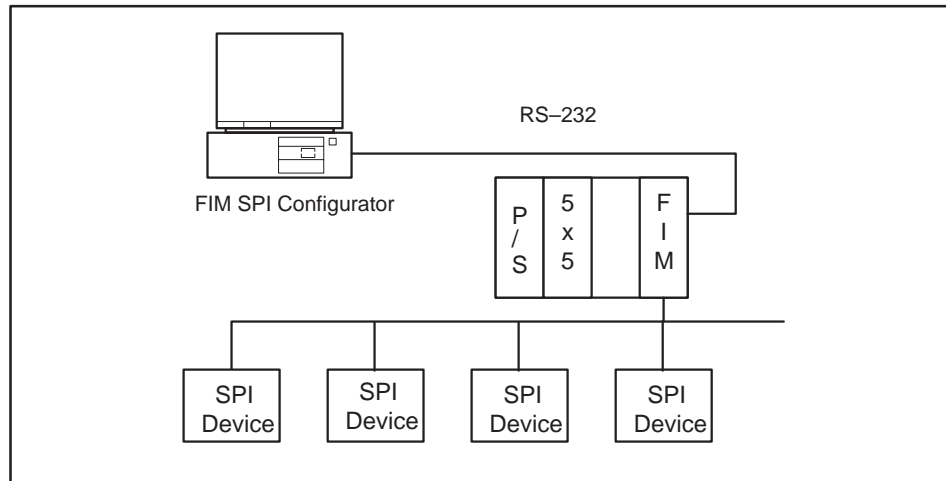

Figure 6-4 Connecting Cable from PC to FIM
1. Connect a cable from the serial port of the computer that has the Configurator software to the RS-232 port of the FIM. See Figure 6-4. A suitable cable may be ordered from Siemens using part number PPX:2601094-8001, which is the standard TISOFT programming cable.